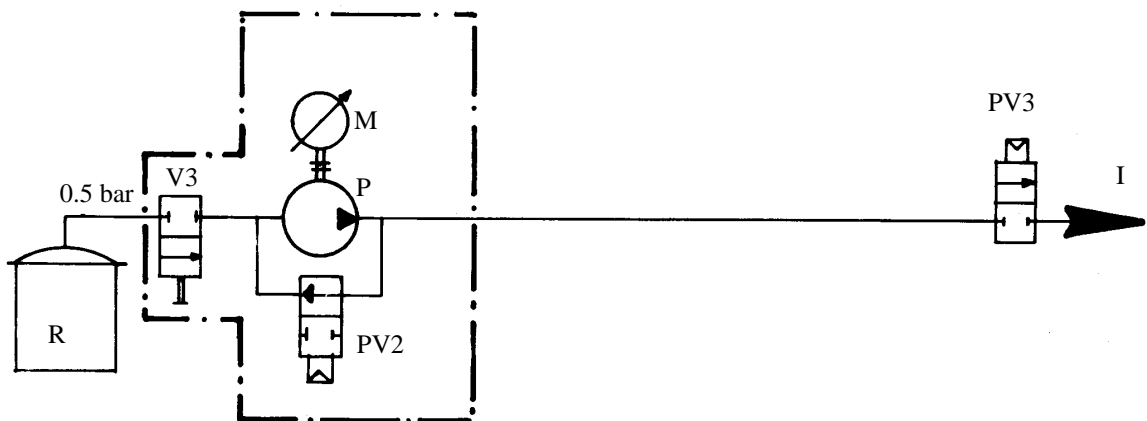

Figure 9
5.3. ASSEMBLY WITH PUMP BY-PASS AIR VALVE (SEE FIGURE 9)